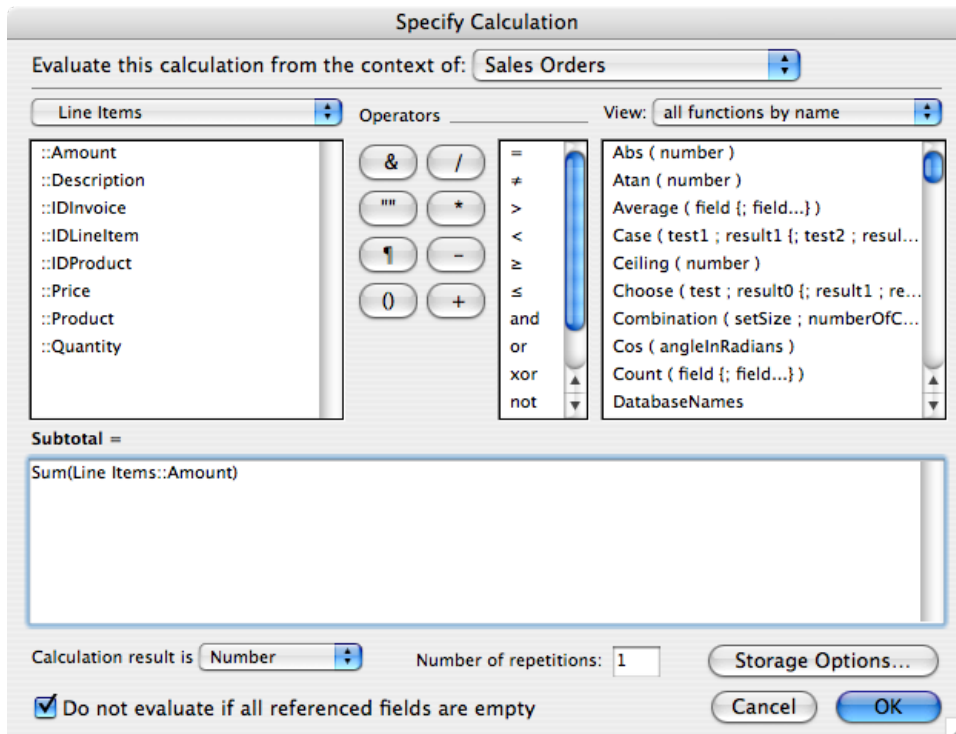

Figure 22: showing the new Subtotal calculation.
- f. Double click on ::Amount in the Line Items list. The calculation should now read "Sum(Line Items::Amount)." See Figure 22.